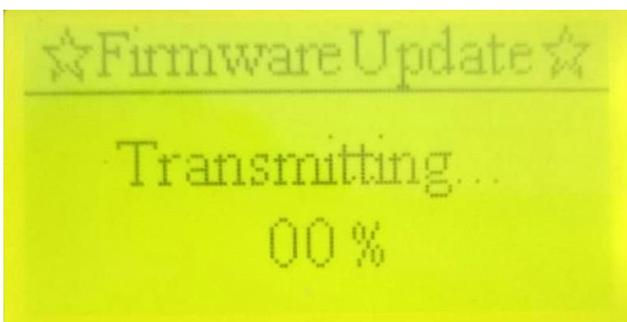
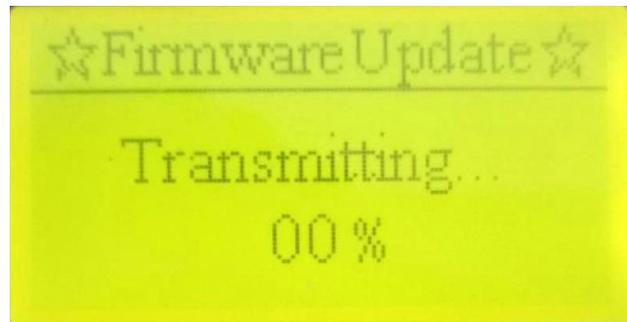

Figure 2.3
Figure 2.4
3. Newest version of field controller: Push and hold the menu key and power button at the same time, will see interface as Figure 2.3, and then press menu key to select [Transmit Program], and push the [Enter] key to start transmit the program, will see interface as Figure 2.4